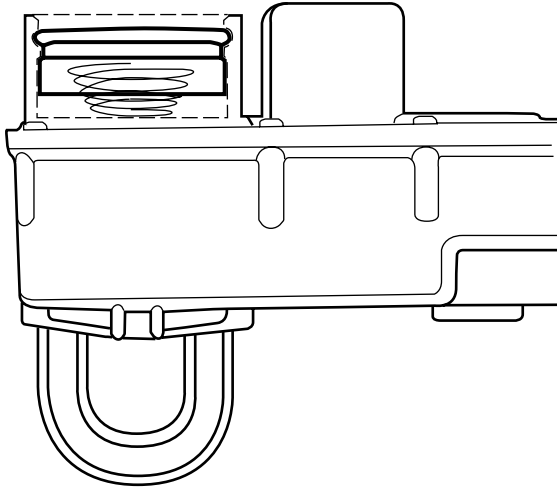

Figure 2. Internal sleeve inserted into indicator boot
4. **Insert the internal sleeve** into the indicator boot. (See Figure 2)